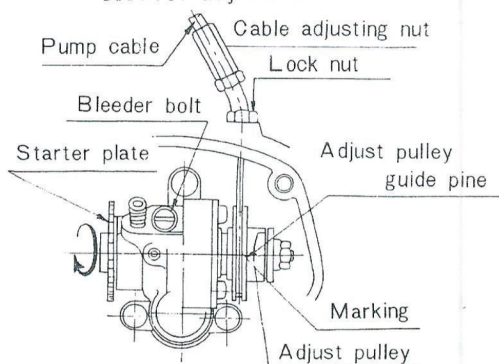
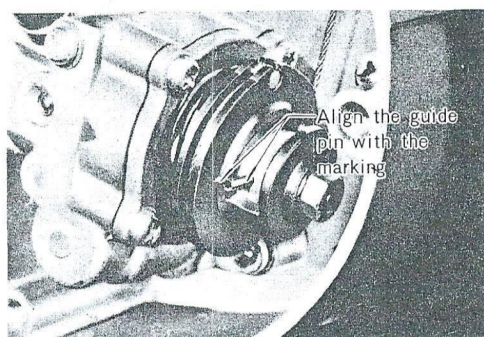

Fig. II-3-7
Fig. II-3-8
- Check the play of the throttle cable(A) by pulling the outer part of the throttle grip. If the play is excessive or insufficient, adjust the play with the adjustment screw.
- a. Adjust the pump cable so that the marking (arrow) on the Autolube pump adjustment pulley is aligned with the guide pin (see Fig. II-3-8). Begin by fully closing the accelerator grip, then slowly turning it back again so that the slack in the throttle cable is completely taken up. Next, adjust the pump cable so that the marking on the pump adjustment pulley will be aligned with the guide pin, as shown in Fig. II-3-7. The point of adjustment is at the end of the cable, just before it enters the case. Loosen the lock nut and screw the adjuster in or out, whichever direction is necessary to obtain the correct adjustment.